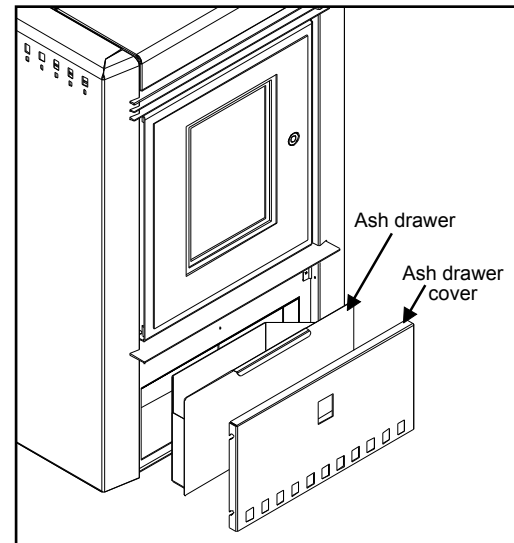
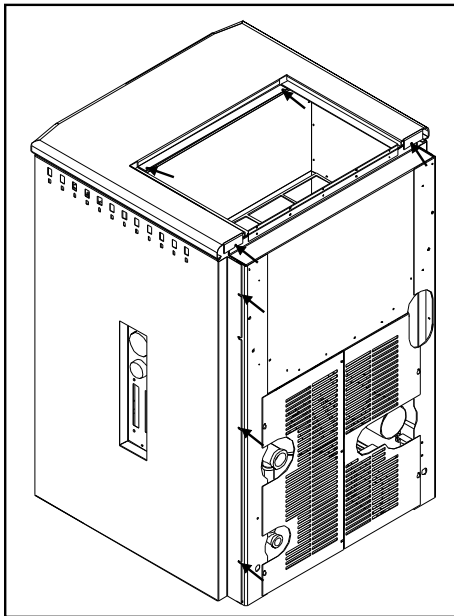
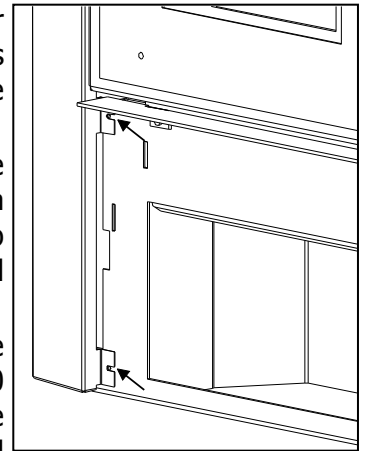

Figure 8
Figure 9
Figure 10
Remove ash drawer (see Figure 8). Dump the ashes into a metal container stored away from combustibles. Monitor the ash level every week. Remember that different pellet fuels will have different ash contents. Ash content is a good indication of fuel efficiency and quality. Refer to “Warnings and Recommendations” for disposal of ashes.
1. Remove the top by loosening the two (2) screws at the back and remove the two (2) under the hopper lid shown in Figure 9. Pull the top up at the back and slide it forward.
2. Remove the cab sides by loosening the three (3) T-20 screws on the back of each side (see Figure 9). Remove the ash drawer cover and ash drawer (see Figure 8) then remove the T-20 screws from the two (2) front tabs (see Figure 10) .